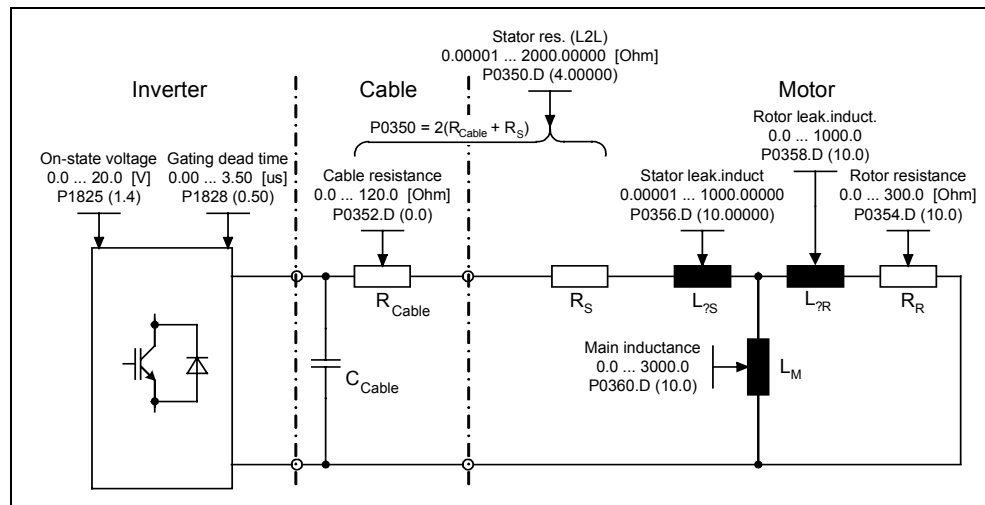

Fig. 3-23 Equivalent circuit diagram (ECD)
Internal motor / control data is calculated using parameter P0340 or, indirectly using parameter P3900 (refer to Section 3.5.2) or P1910 (refer to Section 3.5.4). The functionality of parameter P0340 can, for example, be used if the equivalent circuit diagram data (refer to Fig. 3-23) or the moment of inertia values are known. The following settings are possible for P0340:
- Equivalent circuit data (ECD, refer to Fig. 3-23) → P1910 = 1
If the motor data identification routine is being started for the first time, then the following data (refer to Fig. 3-23) is determined, starting from the rating plate data (rated [nominal] data) with P1910 = 1:
In addition to the equivalent circuit data, the motor magnetizing characteristic (refer to Fig. 3-23) can be determined using the motor data identification (P1910 = 3). If the motor-drive inverter combination is operated in the field-weakening range, then this characteristic should be determined, especially when Vector control is being used. As a result of this magnetizing characteristic, MICROMASTER can, in the field-weakening range, more precisely calculate the current which is generating the field and in turn achieve a higher torque accuracy.